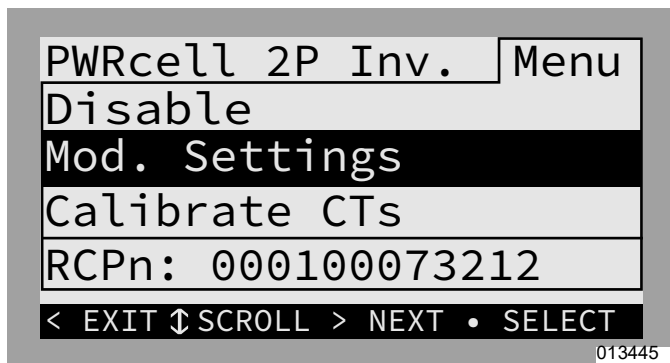

Figure 7-3. Device Main Menu
3. See Figure 7-3. Use the down arrow key to scroll to "Mod. Settings."